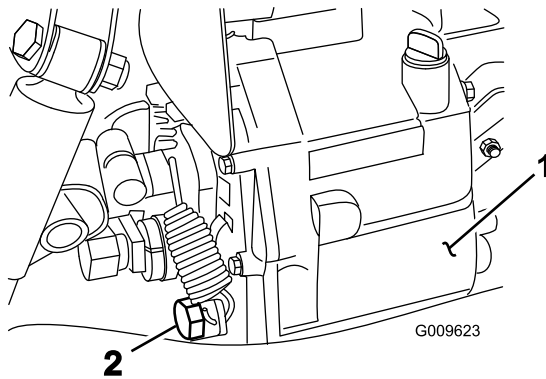

Figure 63
2. Remove the drain plug from the side of the reservoir, and let the hydraulic fluid flow into a drain pan (Figure 63).